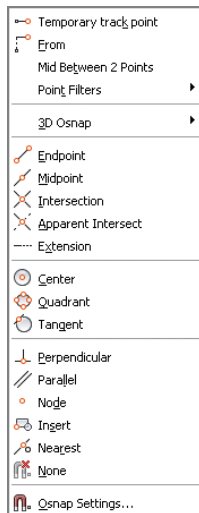

FIGURE 2.23
4. Click the Circle tool on the Draw panel. Before you click a center point, hold down Shift and right-click to open the Object Snap context menu (see Figure 2.23).
9. Hold Shift, right-click again, and type **G**. Notice that this letter is underlined in the word **Tangent** in the context menu (refer to Figure 2.23). Click the circle on the bottom left.